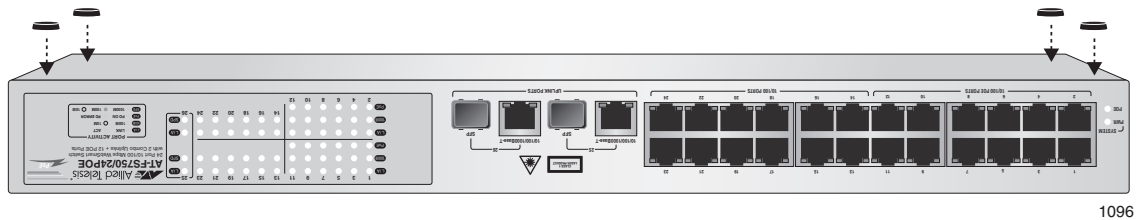

Figure 8. Attaching the Rubber Feet
2. Turn the switch over and attach the four rubber feet to the bottom of the switch as shown in Figure 8.